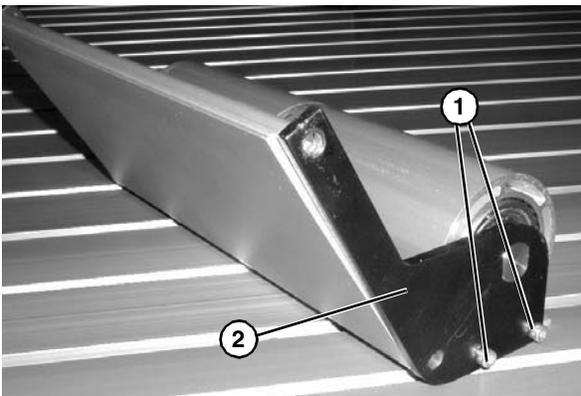

Figure 72
4. Remove screws (**Figure 72, item 1**) and idler guide side plate (**Figure 72, item 2**).